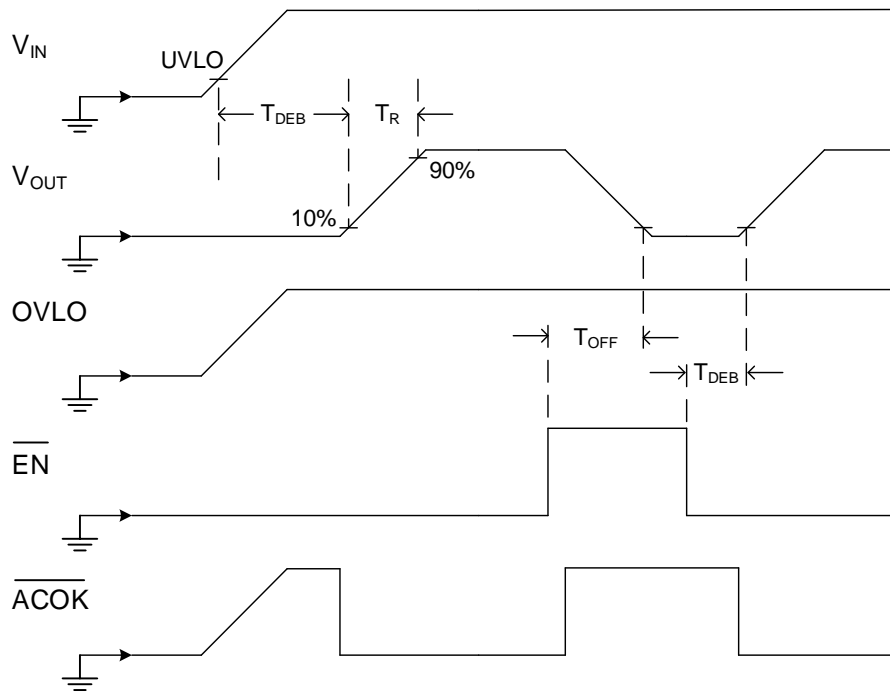

Figure 1. Ramp-up and  $\overline{EN}$  Toggling
9. Timing as defined in Figure 1.